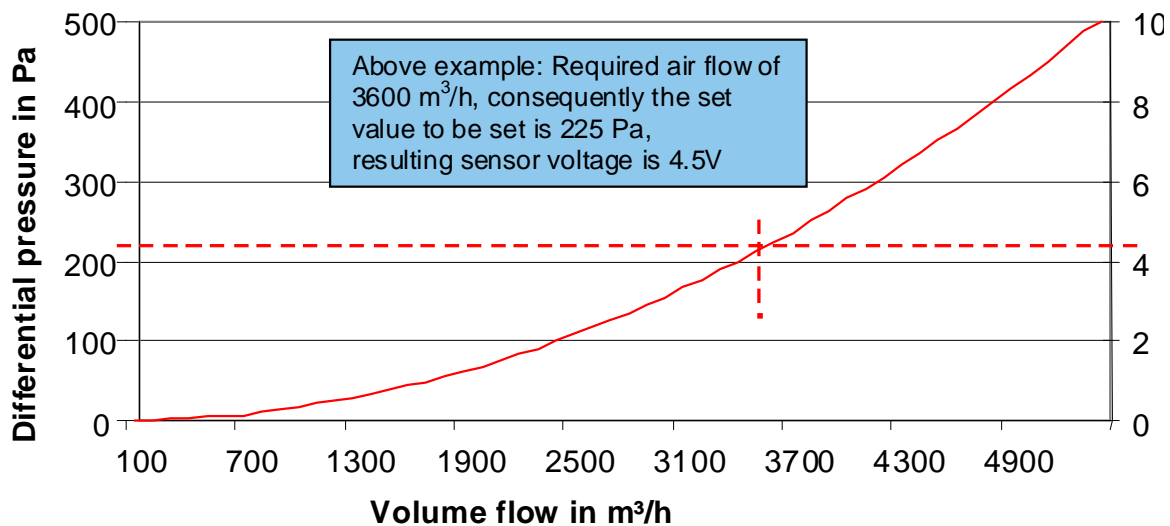

Fig. 57: Pressure, volume flow rate curve
By changing the differential pressure in the nozzle, the air flow can also be changed in accordance with the equation in Chapter 4.2. For the above example with the plug fan R3G450-AY86-01, a k-factor of 240 and a 0 to 500 Pa pressure sensor results from the curve in Fig. 57. For the ratio of differential pressure to sensor voltage, this applies:
- a differential pressure of 225 Pa corresponds to a sensor voltage of 4.5V (see Fig. 57, dotted line)